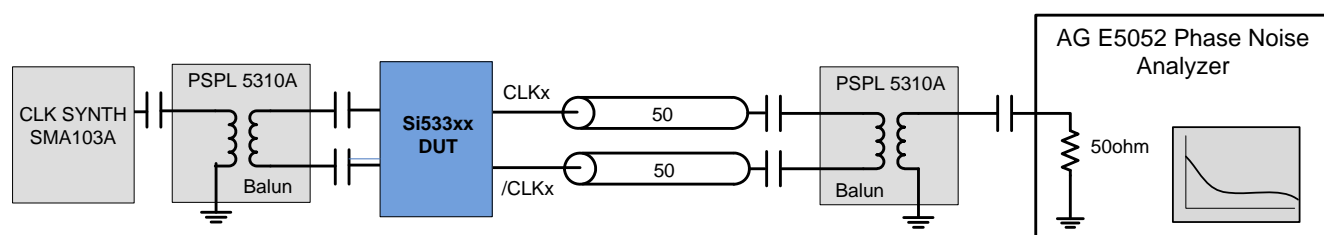

Figure 1. Differential Measurement Method Using a Balun
3. Measured differentially using a balun at the phase noise analyzer input. See Figure 1.
3. Measured differentially using a balun at the phase noise analyzer input. See Figure 1. LVC MOS jitter is measured single-ended.